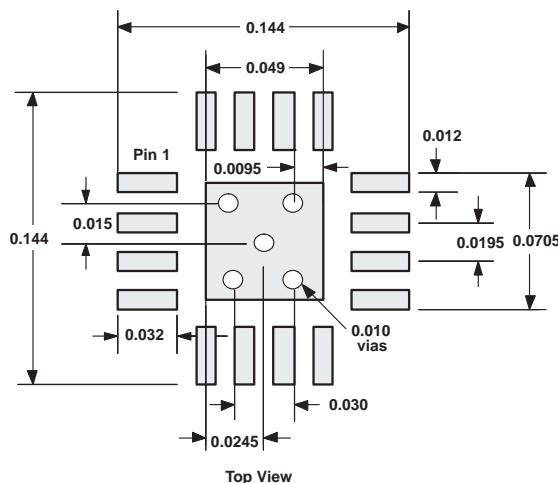

Figure 92. PowerPAD PCB Etch and Via Pattern
9. The THS4509 recommended PCB footprint is shown in Figure 92.
1. Prepare the PCB with a top side etch pattern as shown in Figure 92. There must be etch for the leads as well as etch for the thermal pad.